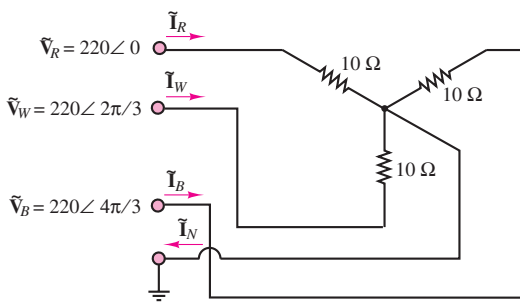

Figure P7.49
**7.49** For the circuit shown in Figure P7.49, find the current in the neutral wire and the real power.